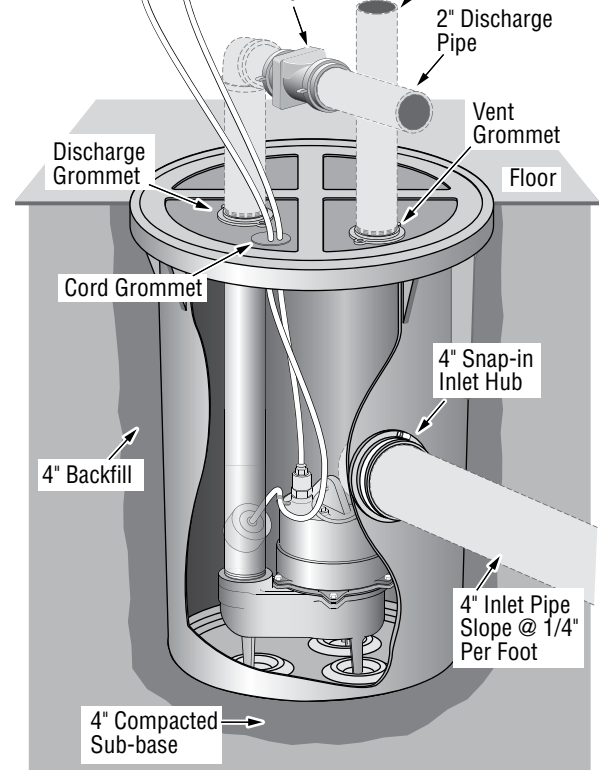

Figure 1 – Typical Installation
## Installation Instructions. See Figure 1.
- Dig the hole for the sewage basin and the sub-base. The hole must be deep enough so the finished floor is flush with the top of the basin. Refer to Figure 1, Page 3.
11. Install the 2" check valve in the horizontal portion of the discharge pipe. See Figure 1. Make certain the flow indicating arrow points away from the pump. This check valve will keep the water from running back into the basin when the pump is not running.